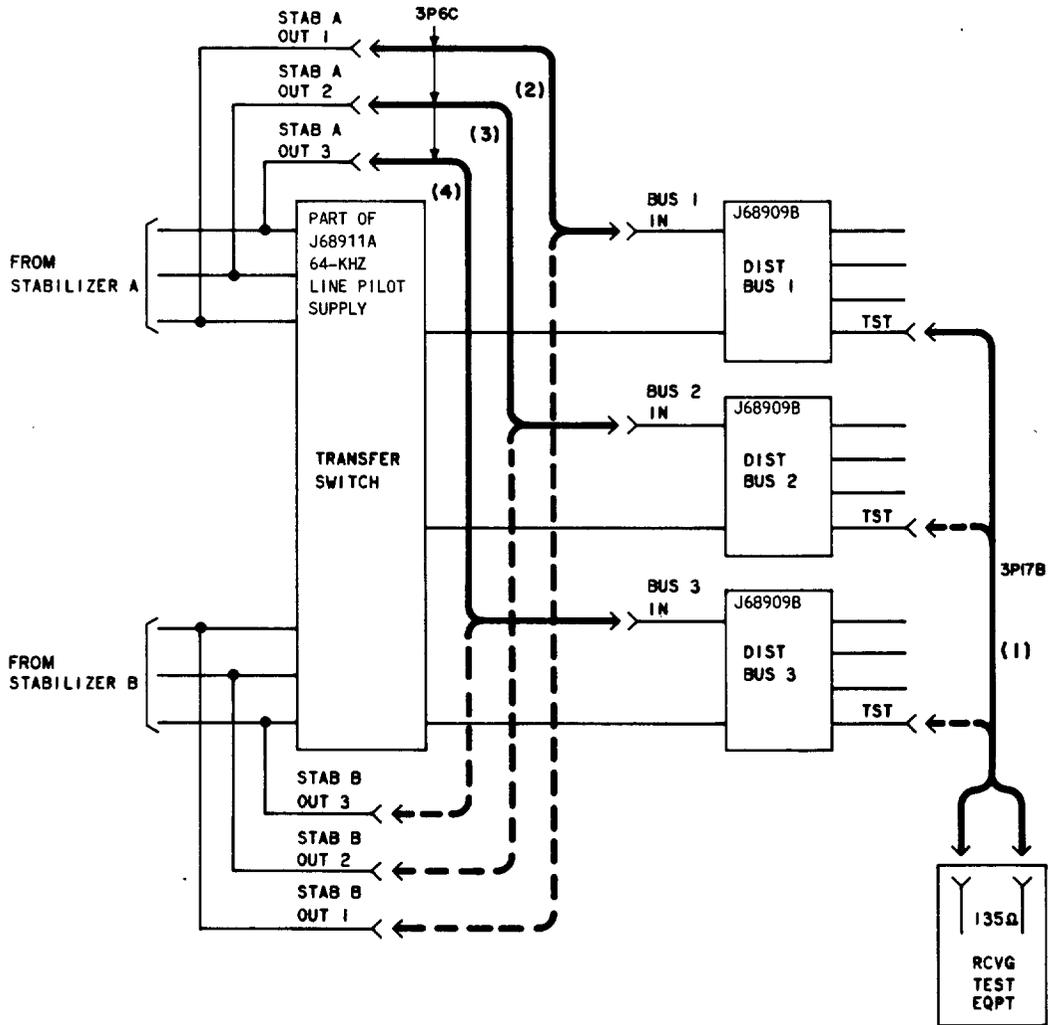

Fig. 5—Transfer Switch Replacement or Failure—Patching Procedures
3	Connect the RTE to the TST jack on the first J68909B distribution bus [patch (1), Fig. 5].
4	◆Make patches (2), (3), and (4) in Fig. 5 on independent 64-kHz pilot supply—J68911A. Note: Depending upon equipment requirements, the BUS 2 and BUS 3 positions may not be equipped. Patches (3) and (4) are required for all equipment arrangements to ensure proper termination of the stabilizer when the transfer switch is removed.◆
6	Verify that the RTE measures a 64-kHz signal at each distribution bus TST jack [patch (1), Fig. 5]. Requirement: -30.0 dBm \pm 0.5 dB